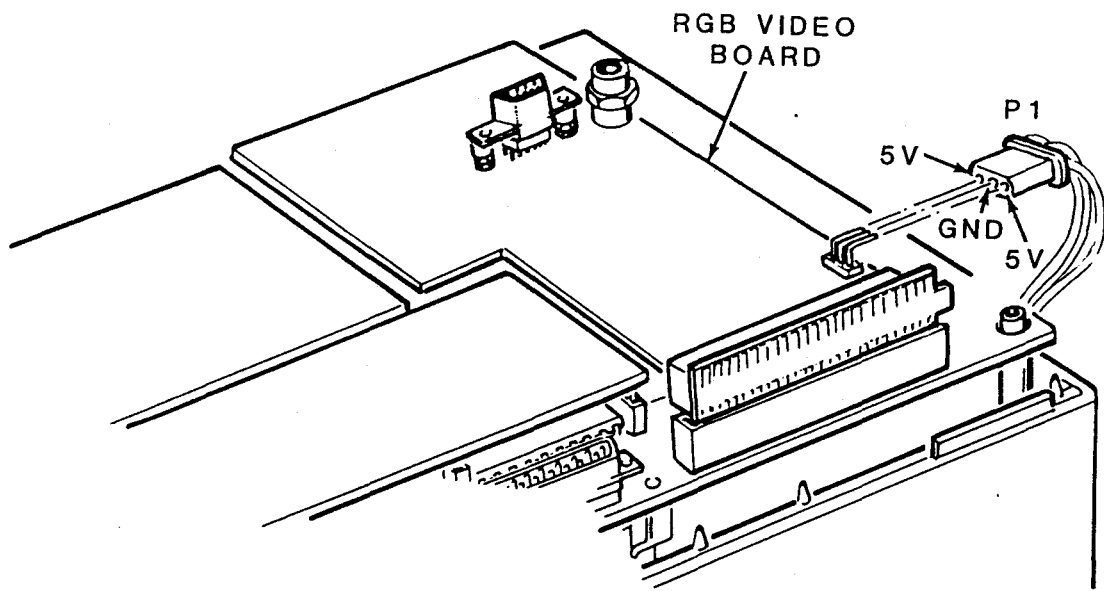

Figure 6-4: Video Board
- 7c Refer to Figure 6-4 for the test arrangement. While using a DVM or VOM to monitor the voltage across the two terminals of the battery, place a 10Ω, 5 watt resistor across the terminals for approximately 10 seconds. Did the voltage drop below 12 volts? 7d 7e